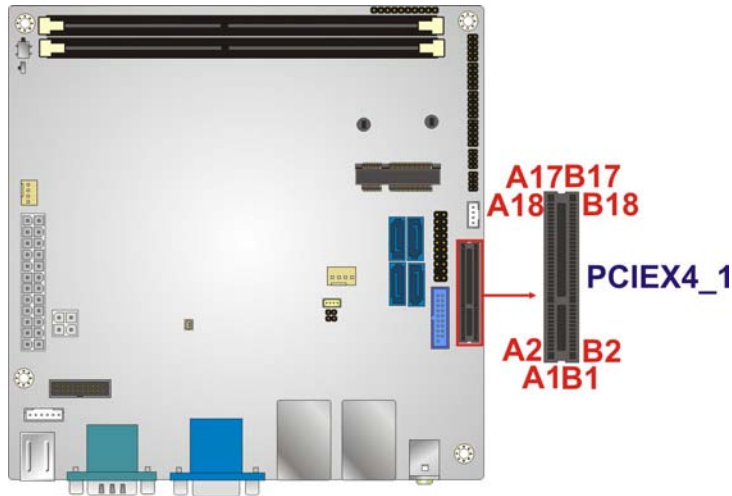

Figure 3-15: PCIe x4 Slot Location
- CN Location: See **Figure 3-15**